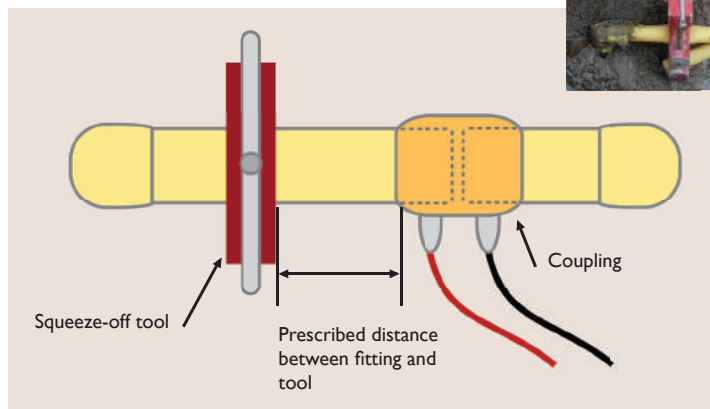

FIGURE 1. A polyethylene gas pipeline undergoing a squeeze-off procedure.
Illinois-based GTI is a research and development organization committed to the advancement of new energy and natural gas technologies. One sector of their research involves the investigation of squeeze-off distances for polyethylene (PE) gas pipelines. Squeeze-off is a seemingly simple procedure that involves compressing a pipe to completely stop the flow of gas (see Figure 1). This is commonly performed for maintenance tasks and to replace sections of pipe without shutting down the whole system.